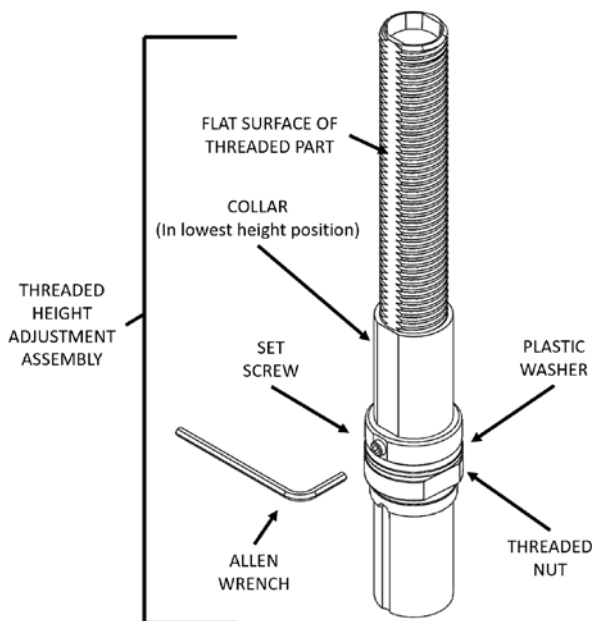
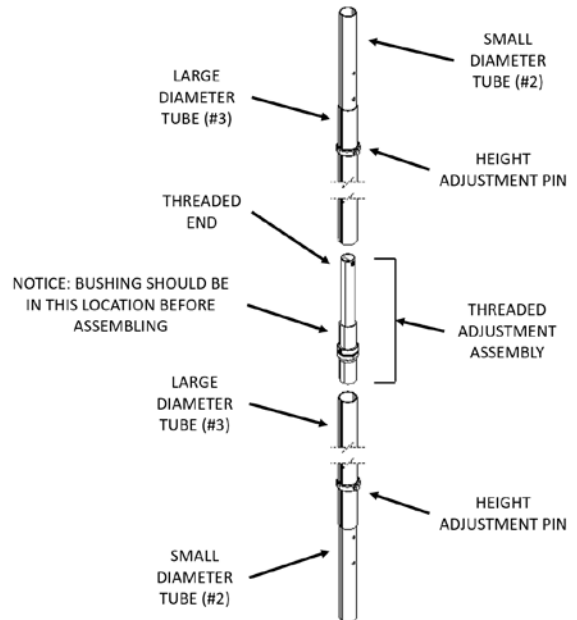

FIGURE 2
FIGURE 3
2. The THREADED HEIGHT ADJUSTMENT ASSEMBLY (# 4) must look like Figure 2 before starting. The maximum amount of threads should be exposed at the end of the assembly.
3. Insert the THREADED ADJUSTMENT ASSEMBLY shown in Figure 2 into the LARGE DIAMETER TUBES (# 3) as shown in Figure 3.
The COLLAR (in Figure 2) has a SET SCREW that must be aligned with the flat surface of threaded part as shown in Figure 2.